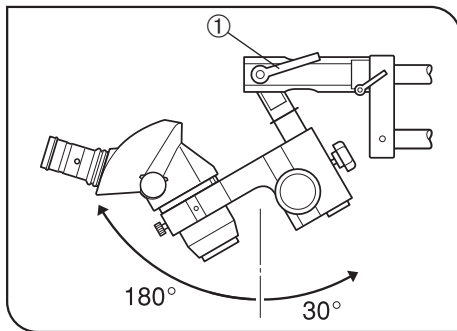

Fig. 19
4. To tilt the microscope body to the front or rear, loosen the tilting clamping lever ①. (Fig. 19)